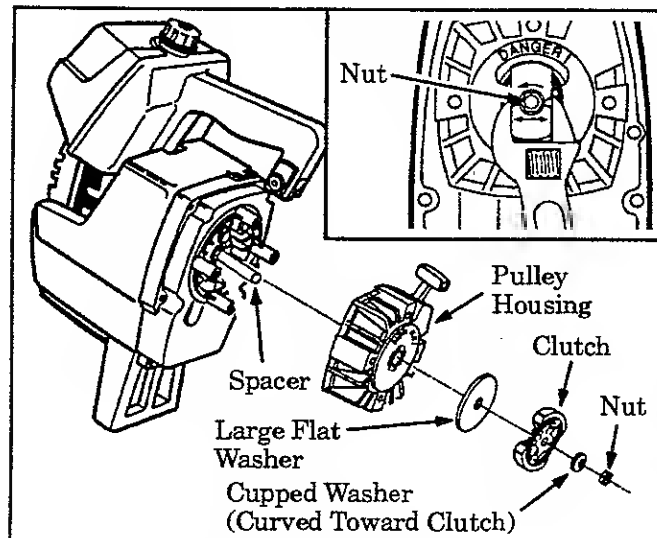

Figure 32
5. Hold the "flats" of the clutch with an adjustable wrench as shown in Figure 32 (inset) and remove the Nut counterclockwise with a 9/16" wrench.
6. Remove the cupped washer, clutch, and large flat washer as shown in Figure 32.
7. Remove pulley housing from unit. Figure 32.
21. Make sure spacer is in place as shown in Figure 32, then reverse steps 1 through 7 to re-assemble.